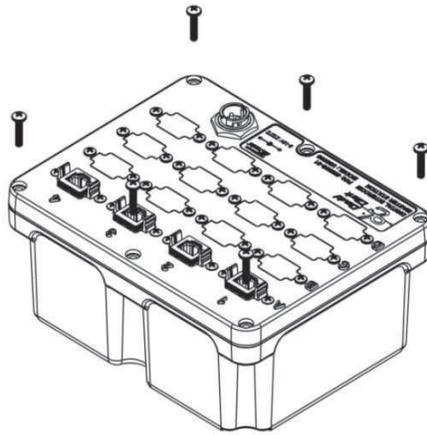

Figure 1 – Main Cover Assembly
2. Remove the six main cover screws (**Figure 1**).
4. Place entire assembly back into enclosure bottom (**Figure 1**).